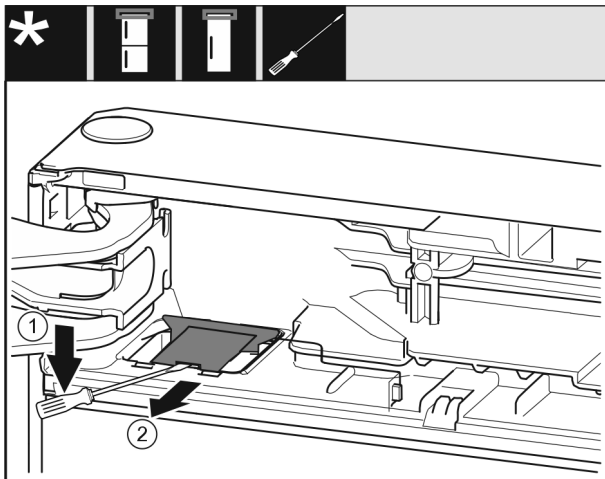

Fig. 10
- ▶ Unlatch the cover with a slotted screwdriver and lift it up. *Fig. 10 (1)*
- ▶ Take out the cover. *Fig. 10 (2)*